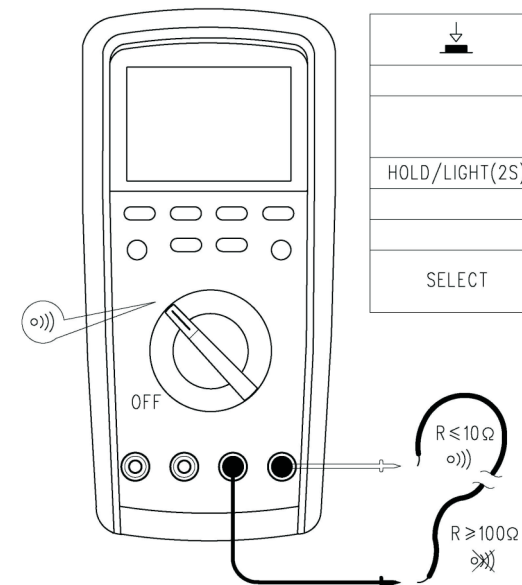

Figure 5
3. Measuring of circuit switching (see Figure 5)